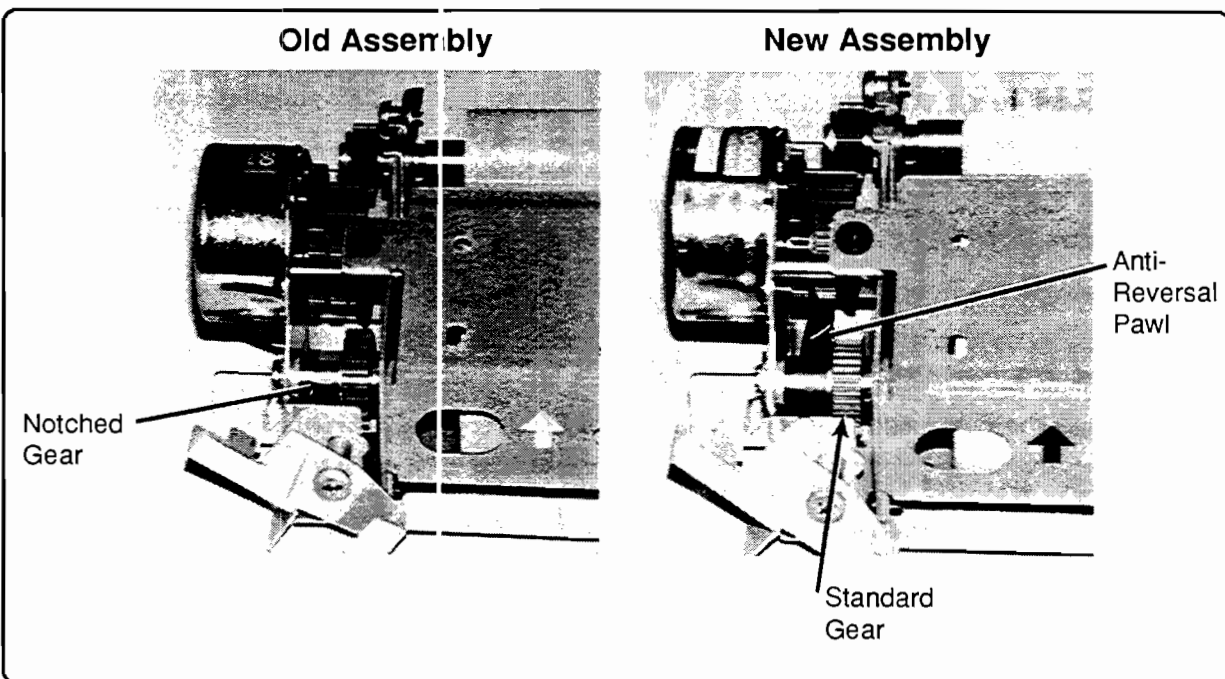

Figure 4-20. Old vs New Cleaning Towel Assemblies
- a. **If the Cleaning Towel Assembly has already been updated** to P/N RG1-0389-090CN (ref. Service Note 2684-6A), then replace only the Cleaning Towel (P/N RF1-0704-000CN). See Figure 4-20 to discern between old and new assemblies.